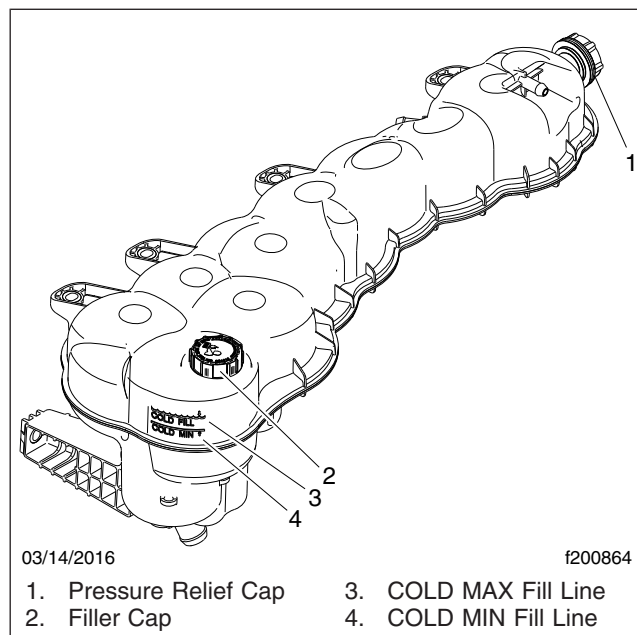

Fig. 23.7, Coolant Surge Tank
5. Check the engine coolant level in the radiator surge tank. See Fig. 23.7.